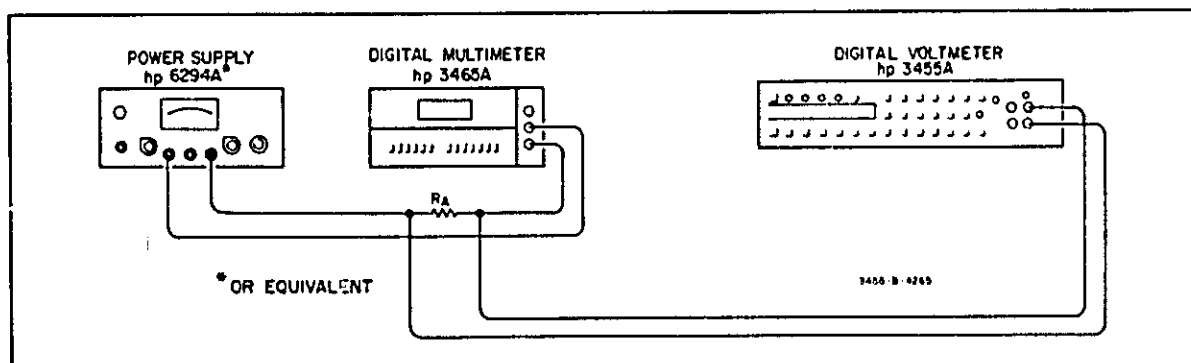

Figure 5-1. DC Ammeter Accuracy Test.
- a. Connect the Multimeter and test equipment as shown in Figure 5-1.